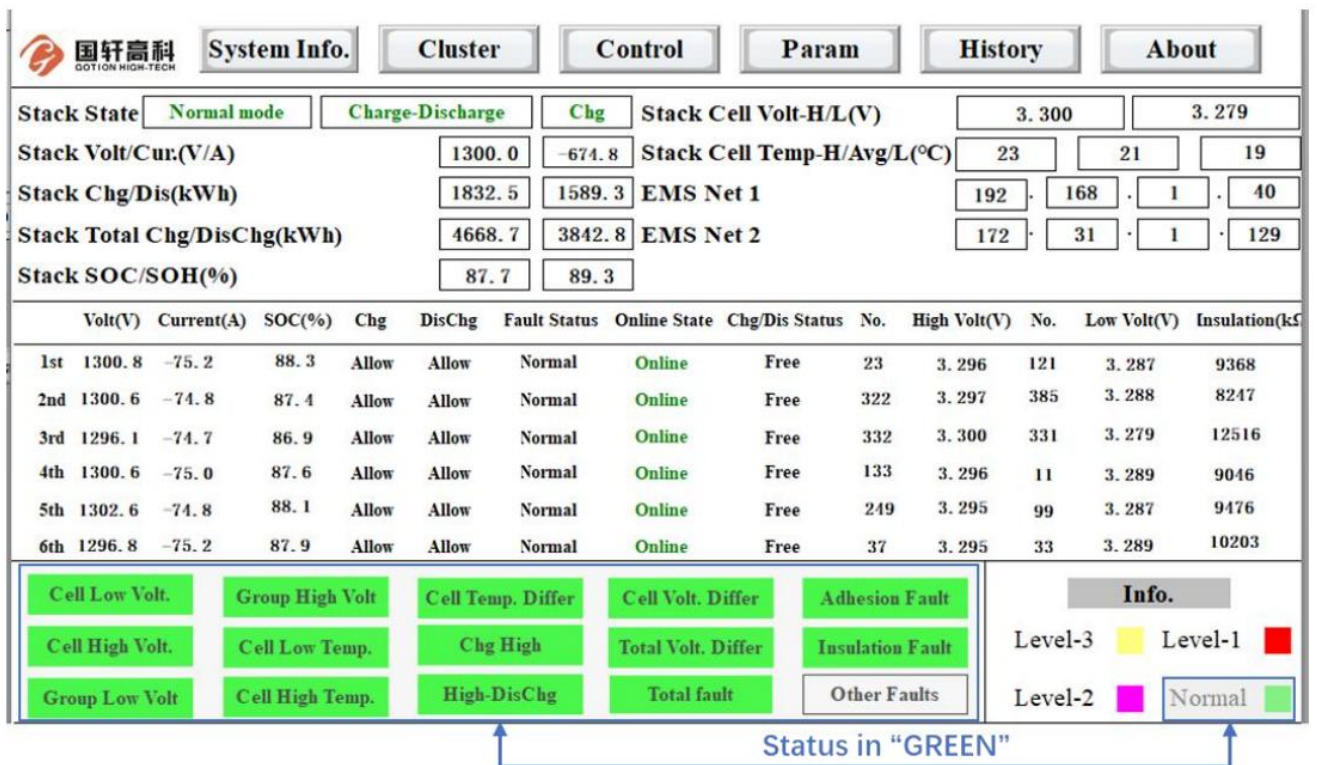

Figure 8- 5 Third-level BMS monitoring display
- The third-level BMS monitoring display will turn GREEN (as shown in Figure 8- 5 Third-level BMS monitoring display below), indicating "Normal" status, completing the power-on process and allowing the system to enter charging and discharging mode.